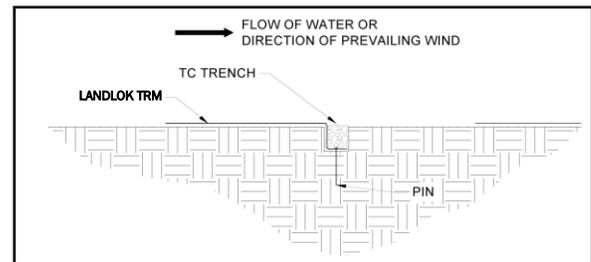

**Figure 17: Crest of Slope (COS) Trenches Complete**
1. Starting with the downstream end of the site select one of the COS trenches to begin the LANDLOK Laydown process. To ensure proper anchoring of the overlapped areas the proceeding roll width must be laid out before the current roll width can be anchored to the final roll width at the TC trench. For straight sections of a channel, LANDLOK panel lengths should be long enough to construct both COS trenches while also covering the surface of the channel being armored. (Figure 17) Panel edges should rest perpendicular to the channel center line. For best results, panels of LANDLOK should be continuous and free from seams or roll end overlaps that are parallel to the centerline of the channel. Panel edge overlapping should follow a pattern of placing each proceeding panel's edge overtop the previous panel edge, shingling the panels in the direction of the water flow.
- Secure LANDLOK with pins in the opposite COS trench. Suggested placement of pins for the opposite COS trench is along the bottom of the trench on 12 in (300 mm) centers (Figure 17).
- Backfill and compact the opposite COS trench in the location of the first LANDLOK panel only (Figure 17).